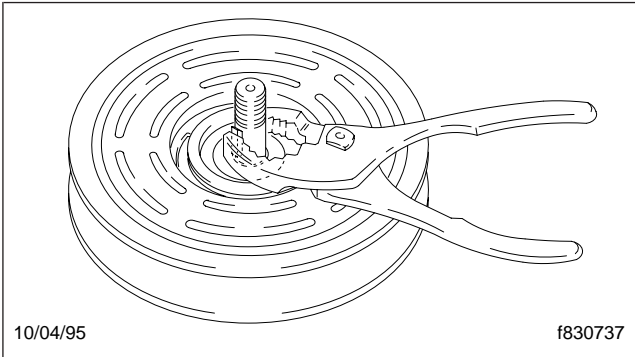

Fig. 8, Install the Shaft Key
- 3.1 Using pliers, install the shaft key. See Fig. 8.